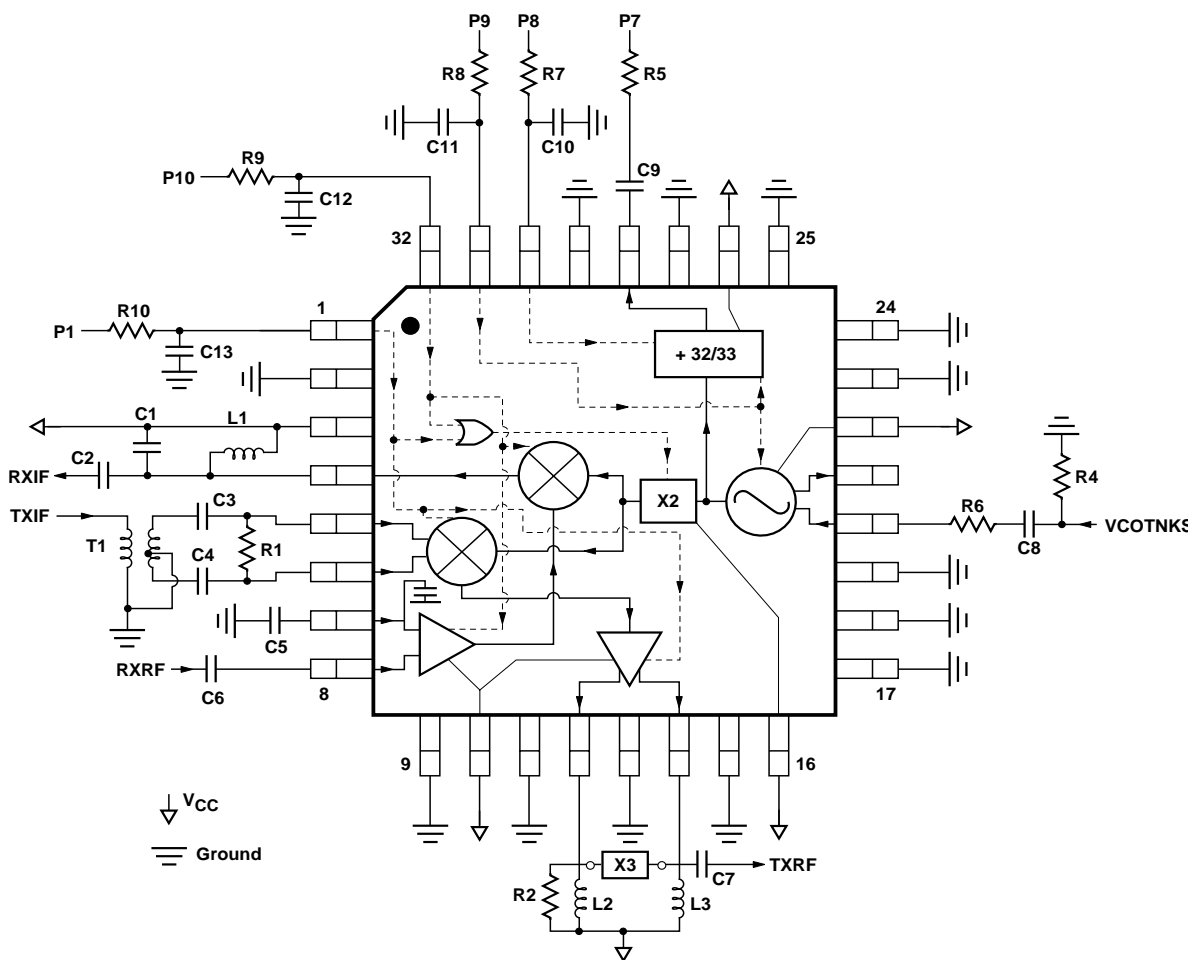

Figure 28. Test Board Schematic Diagram. All I/O Labels Correspond to Those on the Test board. See Table 3 for Component Values.
- DIV output AC coupled into a  $2\text{ k}\Omega \parallel 10\text{ pF}$  load. See test diagram, Figure 28.
**Table 3.** Test Board Components Shown in Figure 28.
For transmit upconversion, a differential narrow-band modulated signal is AC-coupled into the TXIF and TXIFB inputs. The differential signal may be generated by the HPMX-5002 IF Demodulator/Modulator. Once on-chip, the signal is buffered and applied to a double-balanced Gilbert cell mixer. The upconverted RF signal is then amplified to generate a -0.6 dBm single-ended, single-sideband power signal at the 1 dB compression point. The RF outputs, TXRF and TXRFB, are open-collector outputs (see test diagram Figure 28 for recommended matching network). The TXRF output is AC-coupled into a 50  $\Omega$  transmit filter. This signal is then filtered and amplified off-chip by an external power amplifier before it is switched into the antenna. The HPMX-5001 may also be used in DECT systems which utilize direct modulation of the 1LO for data transmission. In this case, either the TXIF or TXIFB input, but not both, must be tied to  $V_{CC}$  to cause the upconverting mixer to act as a buffer stage.
In receive mode, a preamplified RF signal is passed through an image filter and applied as a single-ended signal to the 50  $\Omega$  RXRF input. Use of a 2.7 pF blocking capacitor is recommended. RXRF is the non-inverting input of the RF input amplifier. The inverting input of this amplifier, LNAREF, is self-biased and requires only an external capacitor (recommended value of 3.3 pF) to ground. The receive downconversion mixer also employs a double-balanced Gilbert cell configuration. The production version of the HPMX-5001 will have two equivalent open collector outputs. The HPMX-5001 can operate at IF frequencies up to 300 MHz (see Figure 28 for recommended matching network).